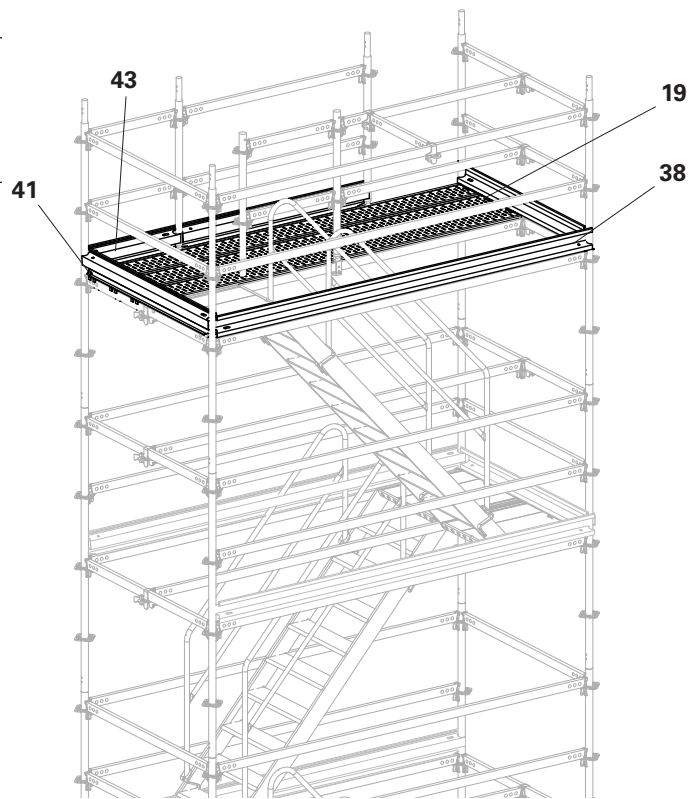

Fig. B5.05
2. Fit Toeboard Steel UPY 300 (**38**), Toeboard Steel UPY 150 (**41**) and Toeboard Steel UPY 75 (**43**) on the completed platform. (Fig. B5.05)